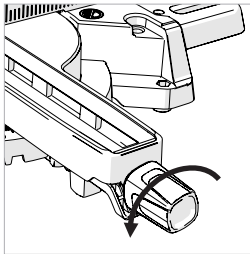

Fig. 42
- Loosen the mitre handle locking knob (**Fig. 42**) by turning the locking knob anti-clockwise.